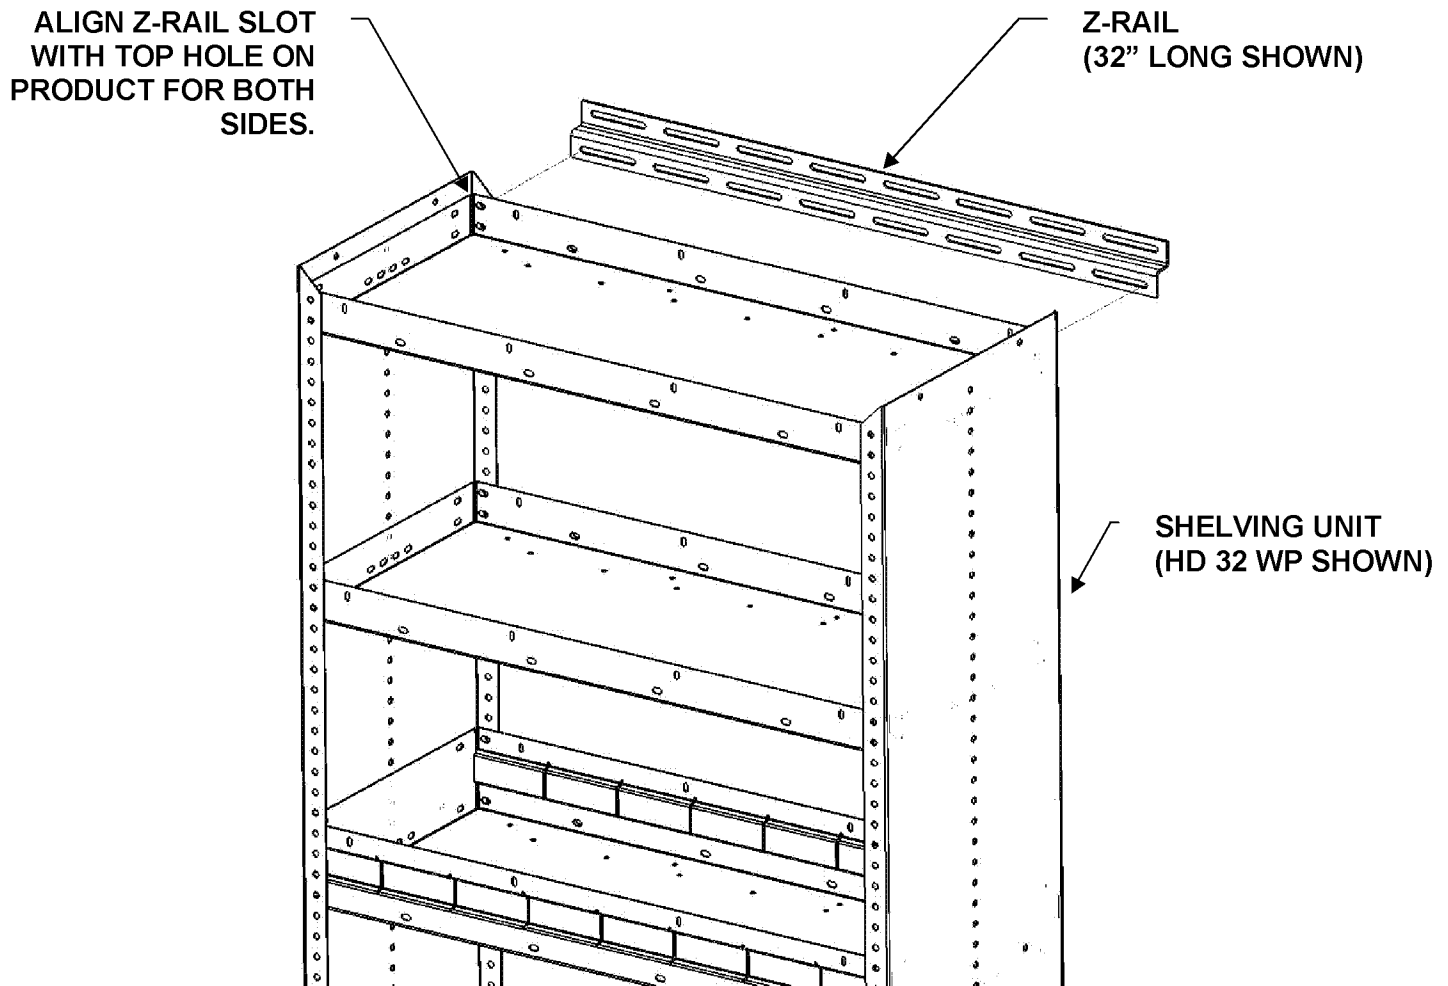

FIGURE 1. Z-RAIL PLACEMENT ON PRODUCT (KD UNIT SHOWN).
- 1) AFTER CABINET/SHELF ASSEMBLY, POSITION THE Z-RAIL TO TOP, BACKSIDE OF CABINET/SHELF, AS SHOWN IN FIGURE 1.